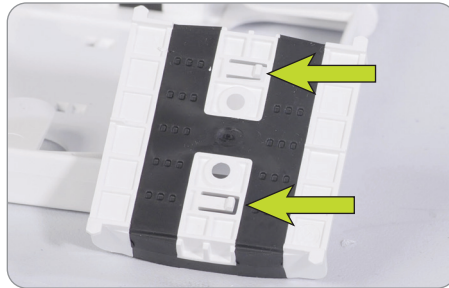

Figure 34
1. To add a splice module to Apex splice tray, simply align the latch tabs. (Figure 34)